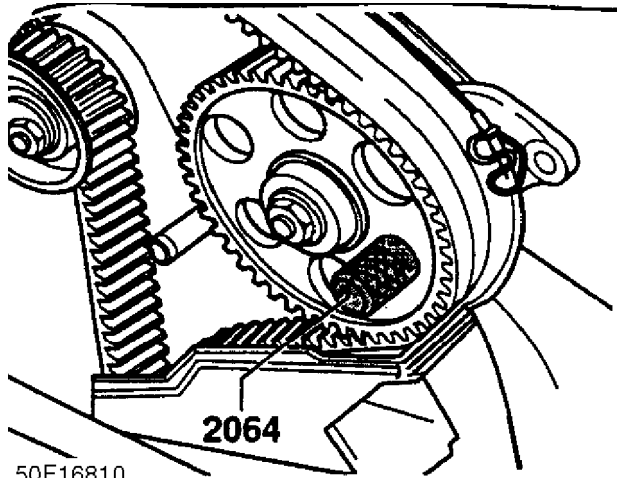

Fig. 6: Locking Injection Pump Sprocket (Lock Pin 2064)
3) Secure injection pump sprocket at TDC with Lock Pin (2064). See Fig. 6. Make sure that timing marks on pump sprocket, bracket and body are aligned with engine at TDC. Loosen belt tensioner and remove timing belt.